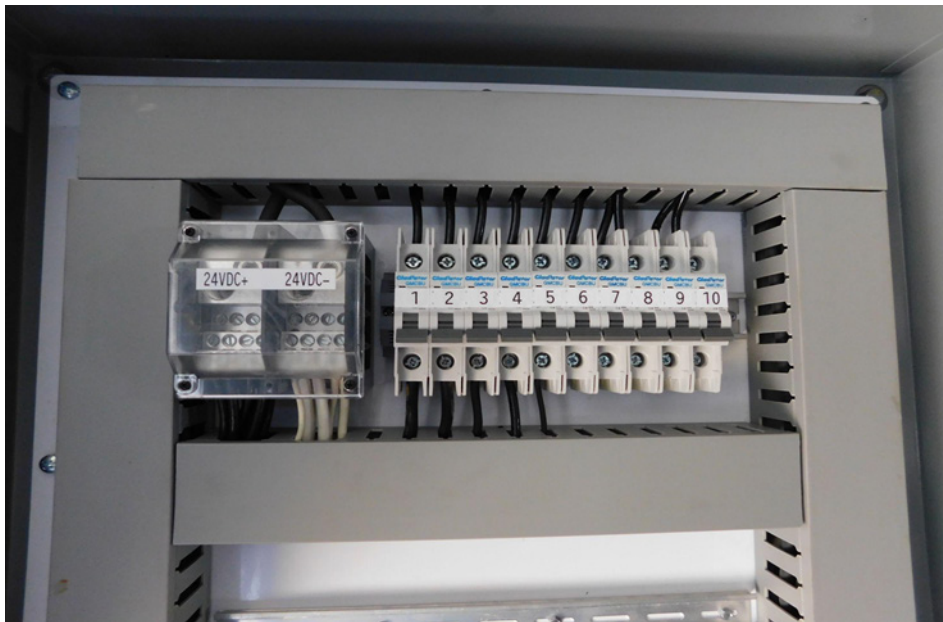

Figure 5.1. 24 Volt DC Circuit Box
- 3) In the feedstock container, open the 24-volt DC circuit box (Figure 5.1). Turn on circuit breakers 1, 2, 3, 4, and 5 to provide battery power to the automation system.